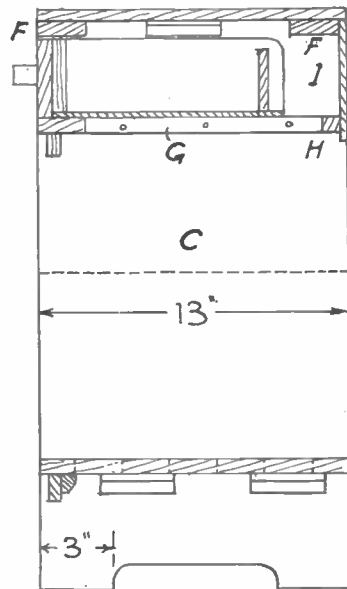

Fig. 3
In Fig. 2 are all the necessary measurements for making, and in Fig. 3 a section through the drawer giving further constructional help. The two ends (A) are 24ins. long by 13ins. wide